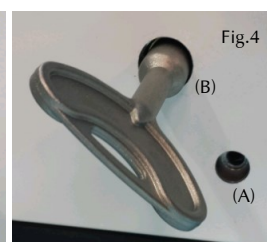

Fig.4
- 4.8(e) Insert key (B) and half turn clockwise to disengage the motor. (Fig.4)
- 4.8(h) Insert key (B) and half turn anti-clockwise to engage the motor. (Fig.4) **IMPORTANT NOTE, if when turning the key (B) you experience resistance and have difficulty re-engaging the motor, a slight rocking motion may be required of the opening section of the rooflight to help re-engage the motor with the rack. This is normal and not a fault with the product.**